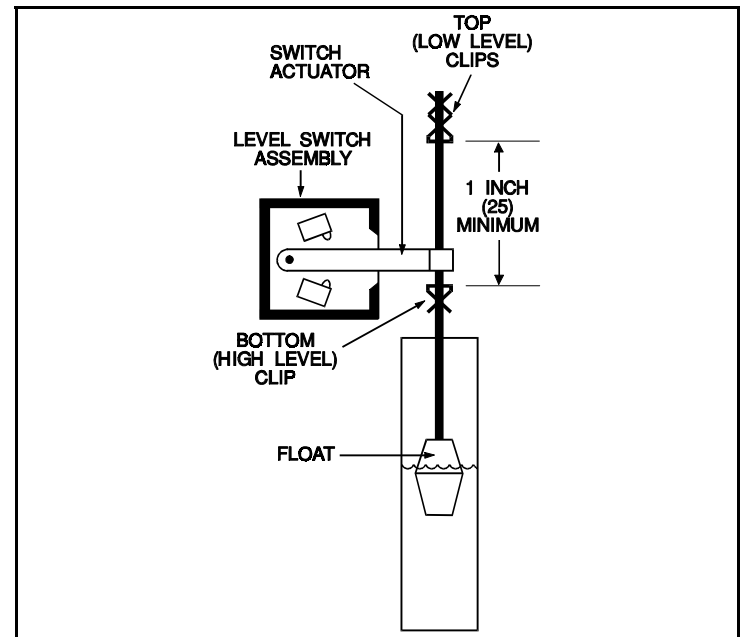

FIGURE 6 (MSSMD405BE)
3. As shown in FIGURE 6 of this section, the two adjustable clips on the float rod must never be set closer than 1" (25). Clips set closer may intermittently bind the level switch lever and cause a malfunction.
How to Set Module Level Switches (FIGURE 6)
The upper and lower clip must be at least 1" (25) apart as shown in FIGURE 6.